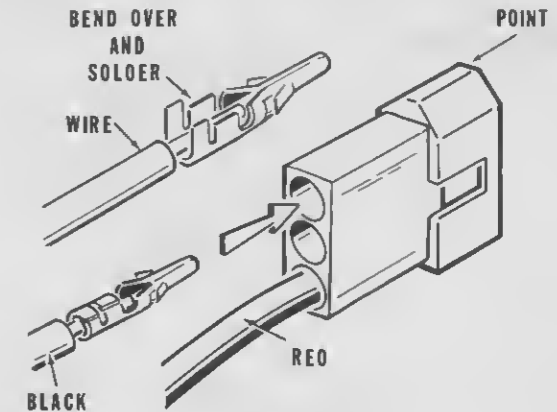

Figure 4
- ( ) Refer to Figure 4 and solder a male terminal pin to one end of the red stranded wire.